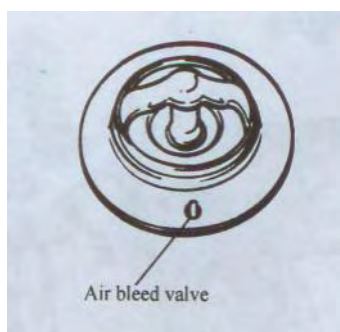

FIG.6-19 (see fig.7-20 of service manual for HFJ6351B)
- (1) Make sure that the air bleed valve of the thermostat is clear. Should this valve be clogged, the engine would tend to overheat. (FIG.6-19)